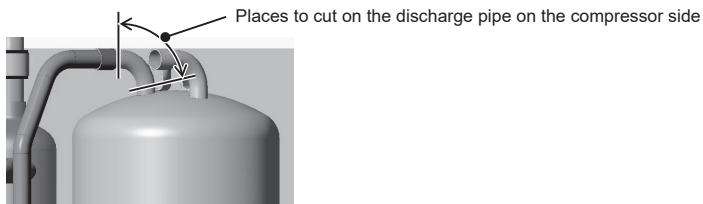

Figure 9
- (9) Cut the discharge pipe of the compressor at the specified location or disconnect the pipe by removing the braze. (Figure 9)